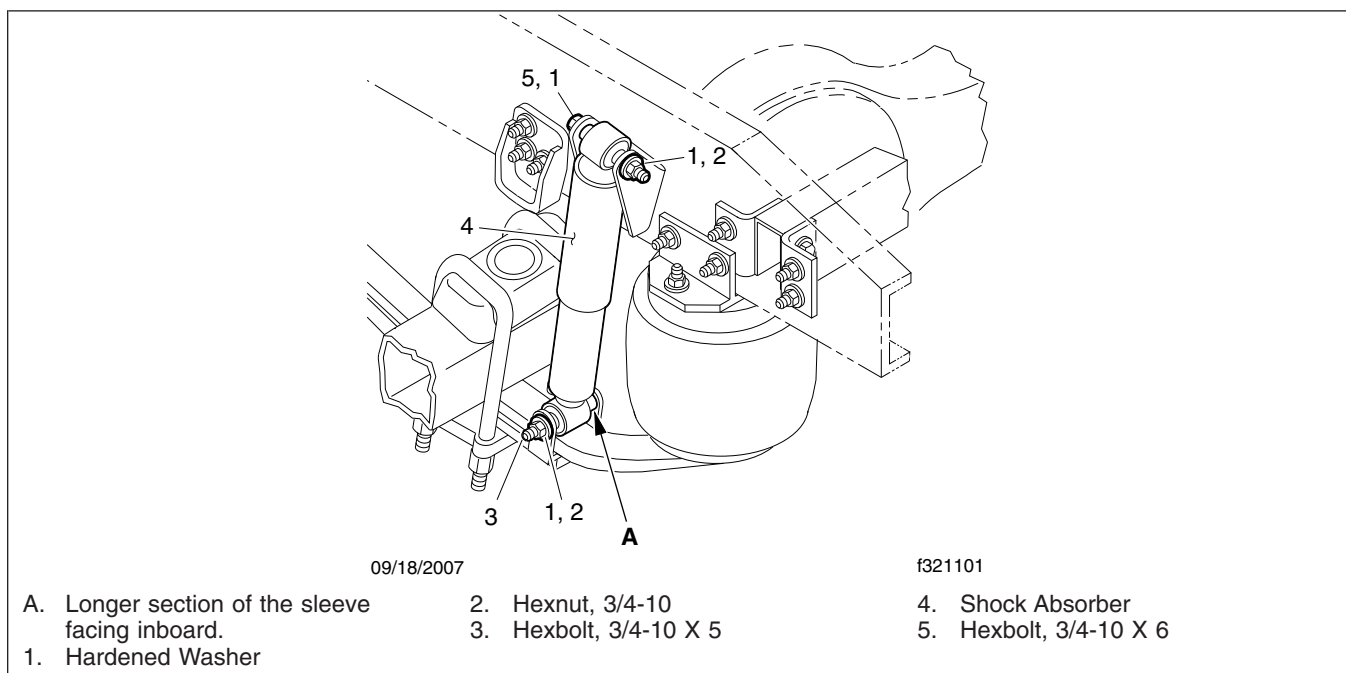

**Fig. 3, Vertical Linkage Connection at the Lower Clip on the Axle**
15. Connect the vertical linkage to the lower clip on the axle housing as shown in **Fig. 3**.